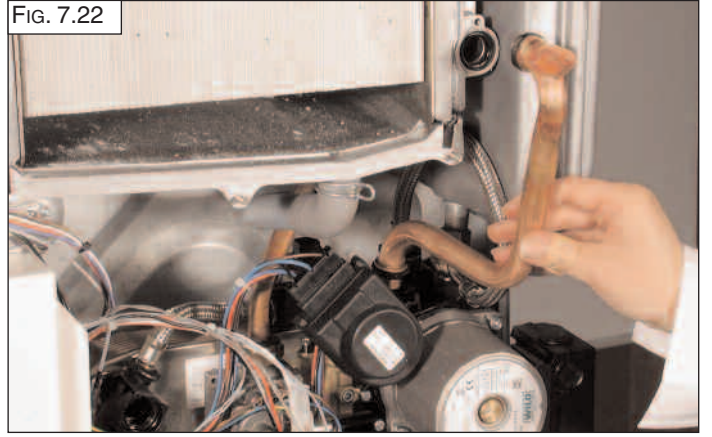
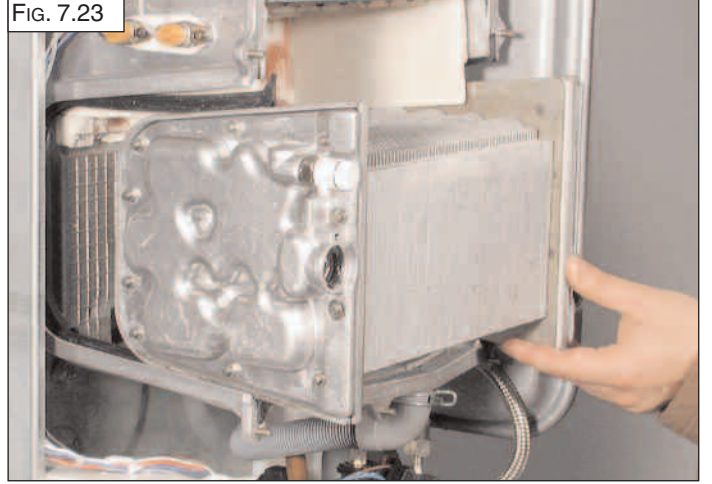

FIG. 7.19
FIG. 7.20
6. Remove the "U" clip "O" (FIG. 7.19) and remove the C.H. flow water pipe (FIG. 7.20);